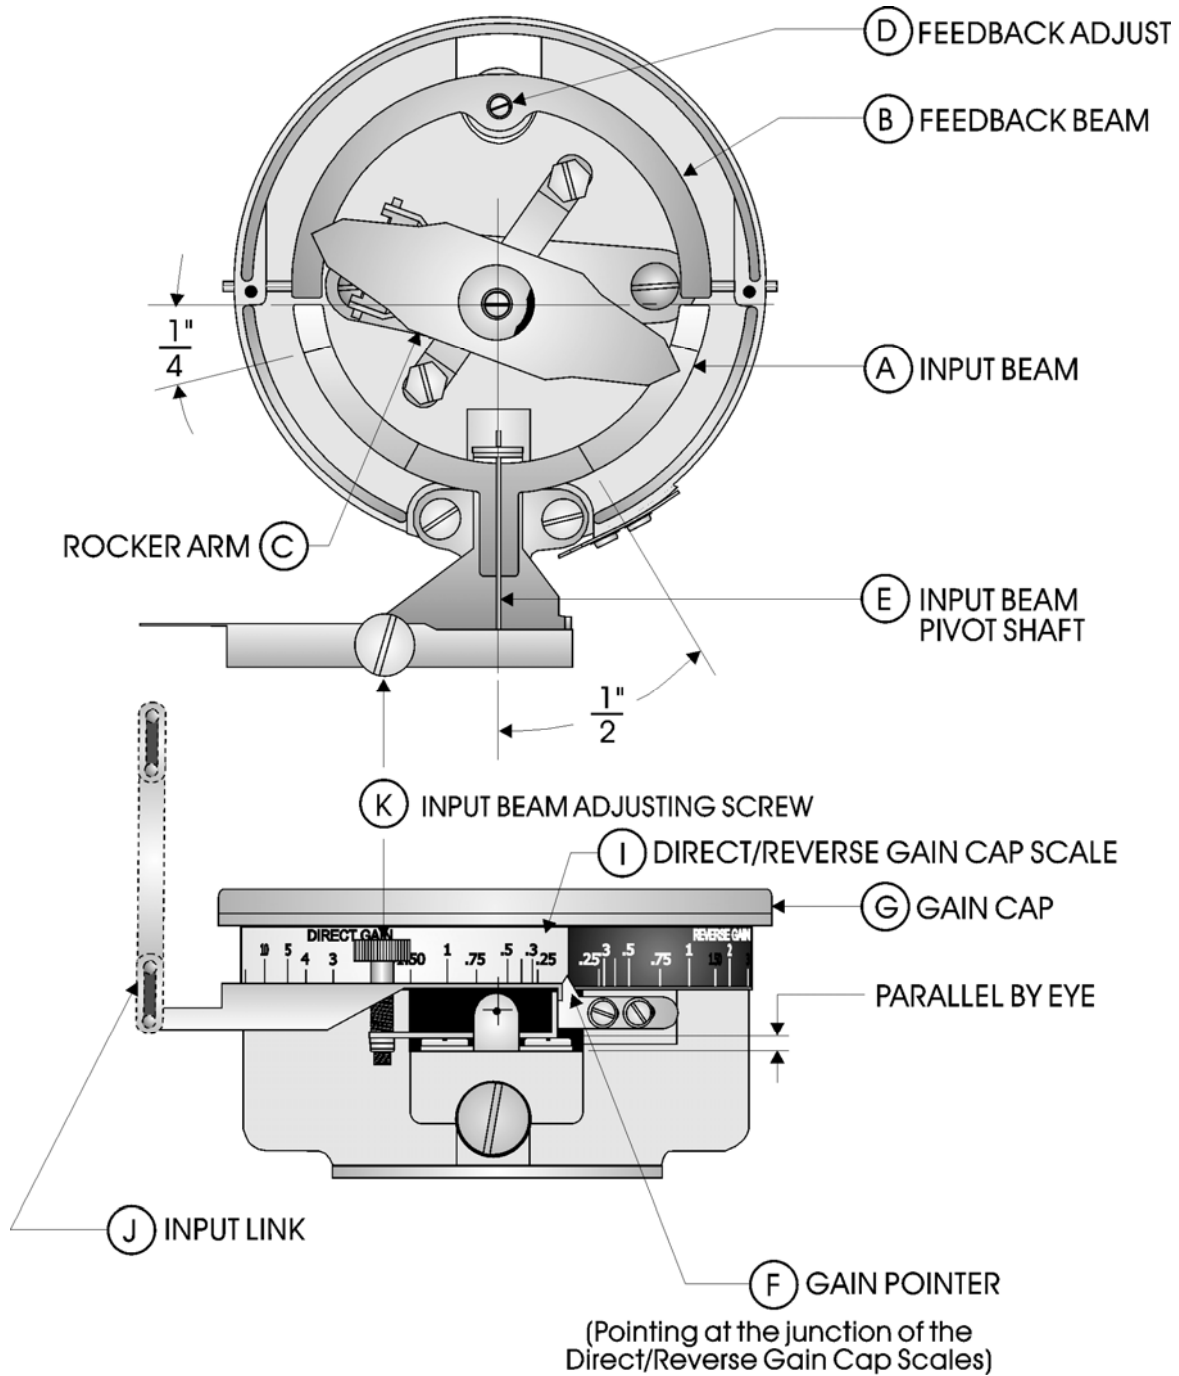
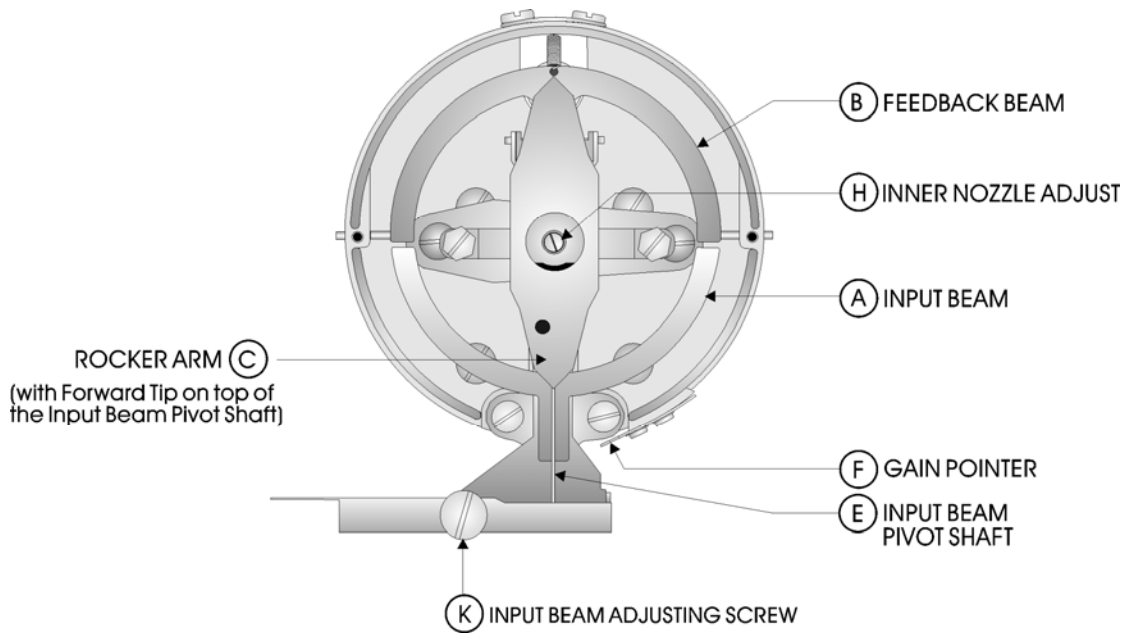

Figure 3-6 - Transmitter Calibration Sketch #1
Figure 3-7 - Transmitter Calibration Sketch #2
3. Disconnect the Input Beam "A" (see Figure 3-6) of the Controller from the vertical Input Link "J." The snap fitting on the linkage opens with a half turn of a screwdriver. ***Do not loosen any linearity adjustment screws on the linkage during disassembly, as complete recalibration will be required.***
- Rotate the Gain Cap "G" until the tip of the forward Rocker Arm is on the top of the Input Beam Pivot Shaft "E" (see Figure 3-7). This is where the Gain = 0.0 (on the line between the Direct and Reverse modes) (see Figure 3-6).
- Adjust the Gain Pointer "F" so that it points at the junction of the Direct/Reverse Gain Cap Scale "T" (see Figure 3-6).
5. If the output does not read 9* psi, then the Input Beam is not balanced (see Figure 3-6).